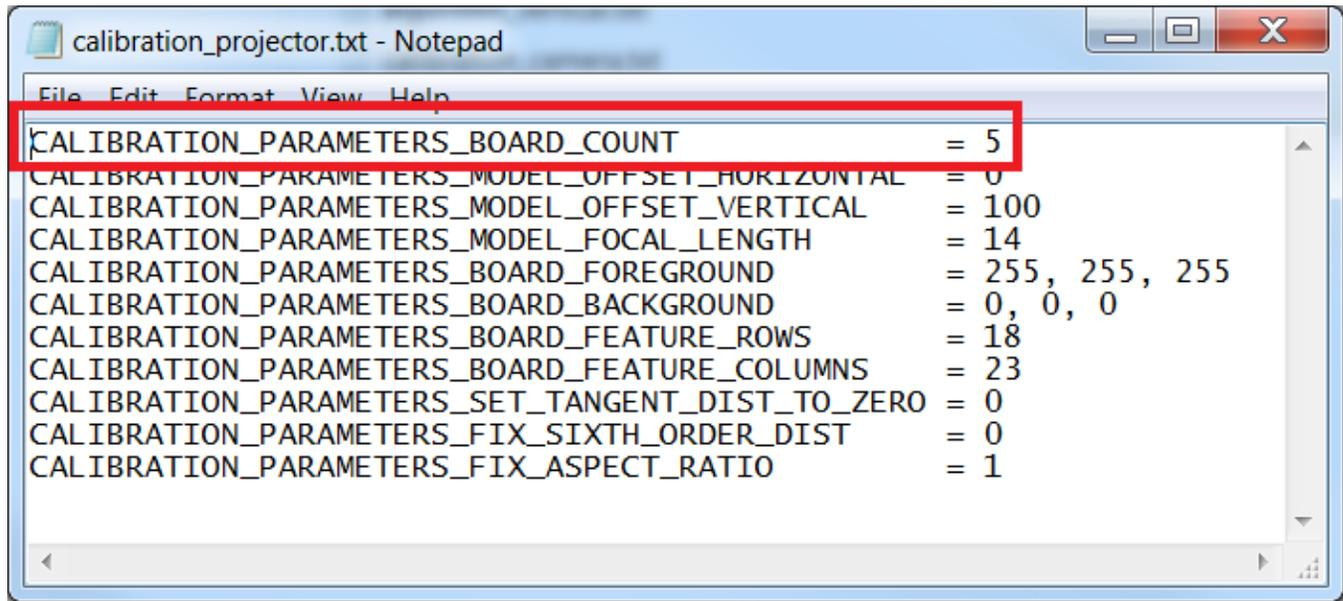

Figure 3-24. Number of Projector Calibration Shots
1. Once the camera calibration is complete and the system has been prepared, the system calibration can be performed. Start the system calibration process by entering "5" in the command line prompt. Read the directions in the prompt in detail. Default calibration will require 5 images. To change this, open *calibration_projector.txt* in \config. Figure 3-24 shows the parameter to change.